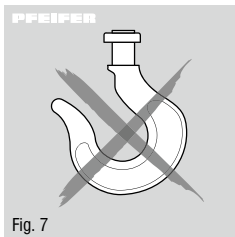

Fig. 7
- It is not permitted to remove the safety shackle from the load or supporting hooks (Fig. 7).